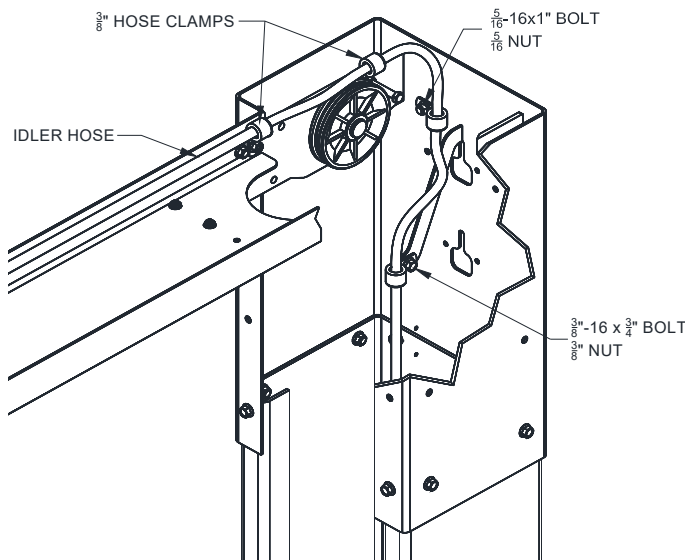

**Fig. 10 – Power Unit Mounting**
27) Mount Power Unit to power column as shown in **Fig. 10**. The mounting hardware, (4) 5/16\"/>
30) Thread 9/16-18 O-ring elbow (*in hardware box*) into power unit. Attach free end of power unit hose to elbow. See **Fig 10**. **CAUTION** do not damage rubber O-ring.